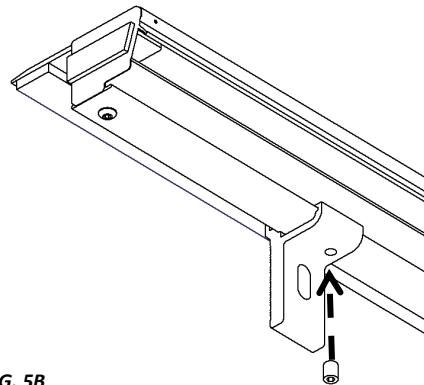
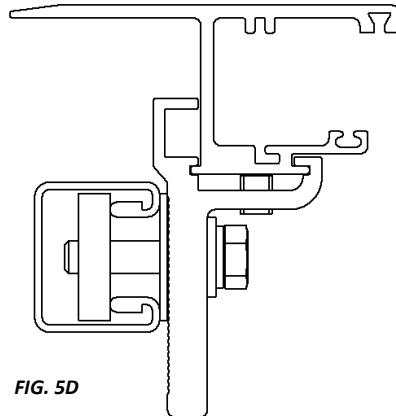

FIG. 5B
FIG. 5D
Secure the rails to the truck bed by installing two clamp assemblies per rail. Slide the Clamp Grip onto the Rail at the end of the rail and slide it **###** inches. Next install the set screw to lock the Clamp grip to the rail with a 1/8" Allen Wrench (FIG 5B). Assemble the rest of the clamp parts as shown (Fig 5D). Before tightening the rail clamps, set the Rail End Caps about 1/16" from the tailgate. This space will allow for overstroke when closing the tailgate.
Finally, check for proper spacing by measuring between the rails at the canister and the tailgate end of the rails (Fig 5A). The measurement should be equal to or less than those in Fig 5B. The Rail Brackets and Shims have been pre-installed to achieve the proper Between the Rail dimensions (BR) when placed on an average factory truck bed. However, not all truck beds are average dimensionally and some have optional plastic caps or over the rail spray-in bedliners